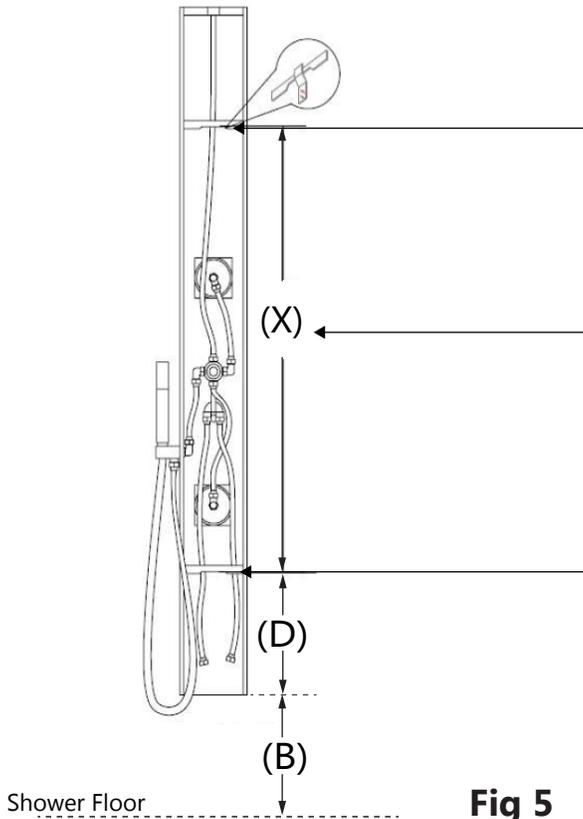

Fig 5
5. Measure the distance between the bottom edges of the two metal supports on the back of the shower panel (**X**). This dimension is also provided by the manufacturer on **page 10** and in Table 1 on page 5 for comparison. Measure from the bottom of the unit to the bottom of the lower metal support (**D**). Using a level, draw two small lines on the wall to indicate the bottom edge of each metal support. (**Fig 5**)